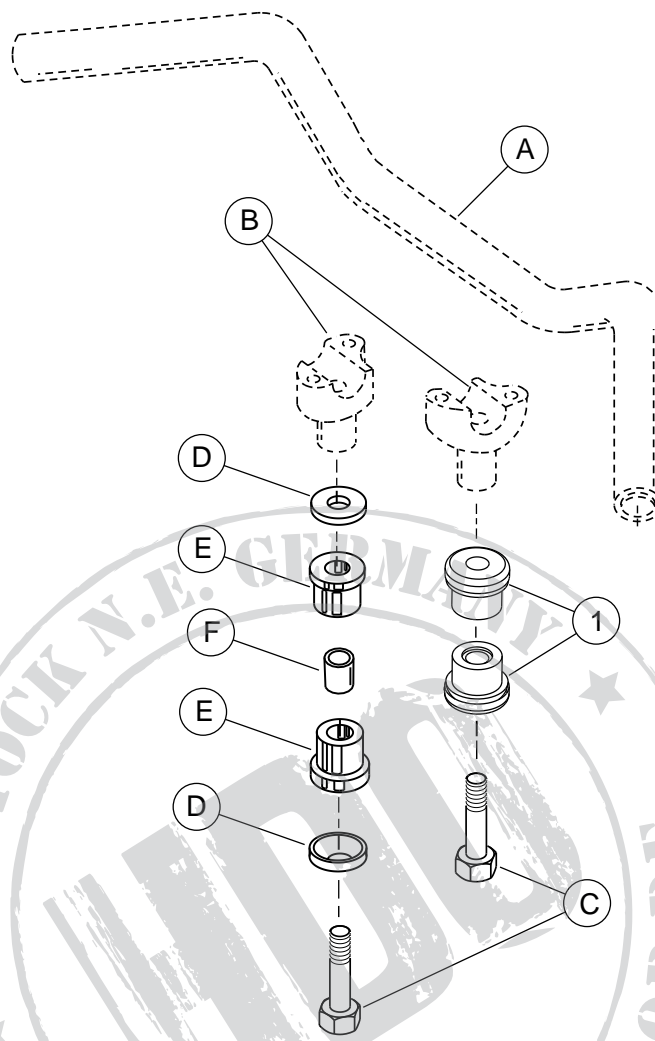

Figure 1. Service Parts: Handlebar Polyurethane Riser Bushing Kit
See Figure 1 and Table 1.
1. **For All Models Except Touring.** See Figure 1. Remove and save the two capscrews (C) from underneath the
2. **For the Touring models.** See Figure 1. Remove and save the the existing capscrews (C). Remove the handlebar assembly (A) and carefully allow gauges and handlebar to rest on motorcycle. Remove and discard cup washers (D), rubber bushings (E) and spacers (F). Install the new bushings.
3. Install the new polyurethane riser bushings (1) in place of the removed cup washers, bushings, and spacers.
4. Align components as shown in Figure 1.
5. Secure components with two hex head capscrews removed in Step 1. Insert the capscrews, from the bottom, thru the upper fork bracket, thru the bushings (1) and into the clamps (risers).